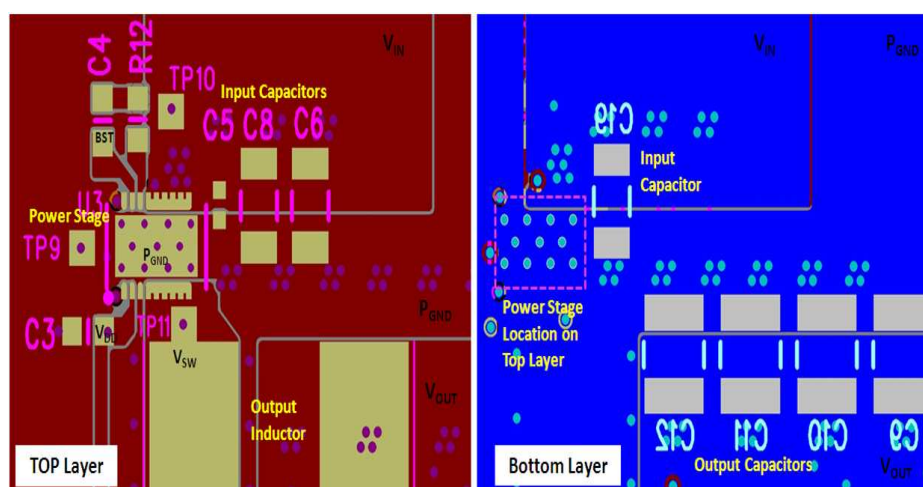

Figure 17. Recommended PCB Layout (Top Down View)
- The placement of the input capacitors relative to V_{IN} and P_{GND} pins of CSD97376Q4M device should have the highest priority during the component placement routine. It is critical to minimize these node lengths. As such, ceramic input capacitors need to be placed as close as possible to the V_{IN} and P_{GND} pins (see Figure 17). The example in Figure 17 uses 1 × 1-nF 0402 25-V and 3 × 10-μF 1206 25-V ceramic capacitors (TDK Part # C3216X5R1C106KT or equivalent). Notice there are ceramic capacitors on both sides of the board with an appropriate amount of vias interconnecting both layers. In terms of priority of placement next to the power stage C5, C8 and C6, C19 should follow in order.
- Use the smallest drill size allowed in your design. The example in Figure 17 uses vias with a 10-mil drill hole and a 16-mil capture pad.